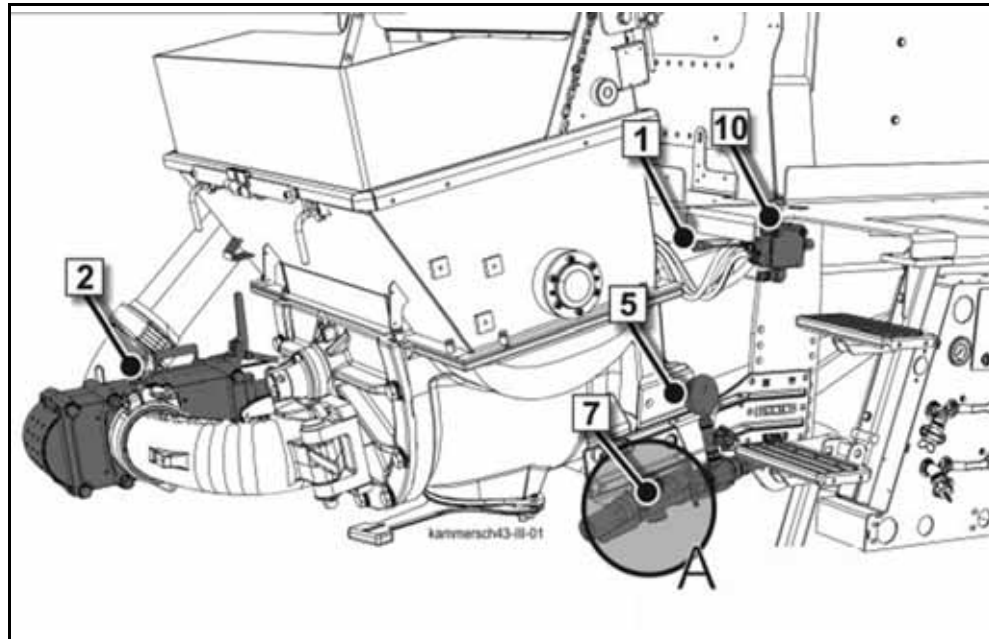
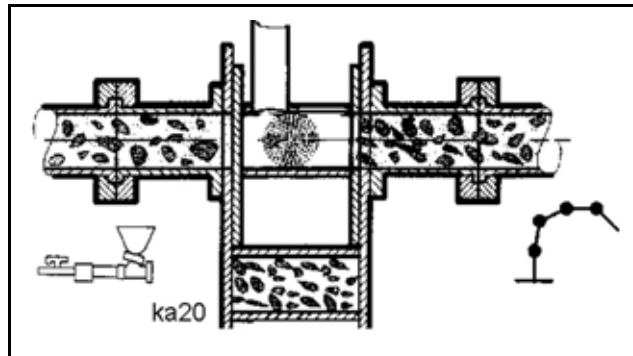

Fig. 454 Complete chamber valve
Fig. 466
- Use caution when opening the ball valve (7) (**Fig. 454**). Residual concrete can be ejected from the blow valve opening.
The chamber valve is installed in the pumping line for the boom outlet on the rear of the machine (2) (Fig. 454).
The control devices for the system are located on the rear of the machine, on the right (1) (Fig. 454).
Caption for (Fig. 454), (Fig. 455)
- Shut the ball valves for the air system (6) (**Fig. 455**) and (7) (**Fig. 454**).
<p>10214311</p>	<p>Actuate the control lever (1) (Fig. 454) until the chamber with the ball is completely inside the gate valve housing (Fig. 466).</p> <p>The connection between the concrete pump and boom pumping line is then interrupted. When the spring-centred control lever (1) (Fig. 454) is released, it returns to the "Neutral position".</p>
- Open the ball valves for the air system (6) (**Fig. 455**) (7) (**Fig. 454**).
- Slowly shut the ball valve (7) (**Fig. 454**).
- During the cleaning process, monitor the compressed-air pressure gauge continuously (5) (**Fig. 454**).
Immediately open the ball valve (7) (**Fig. 454**)!
- Completely open the ball valve (7) (**Fig. 454**) when the ball has come out of the pumping line.
Extend the valve chamber only while the compressor is off and the pressure gauge (5) (**Fig. 454**) displays "0 bar".
- Depressurise the pumping line by opening the discharge ball valve (7) (**Fig. 454**).